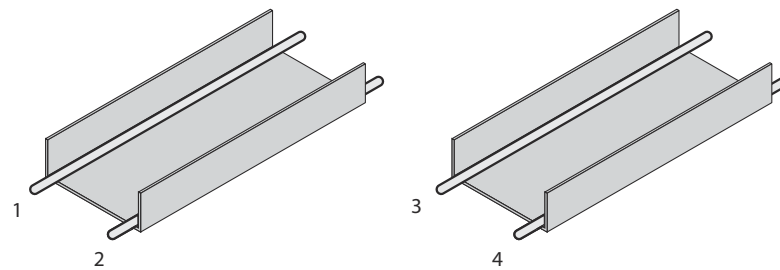
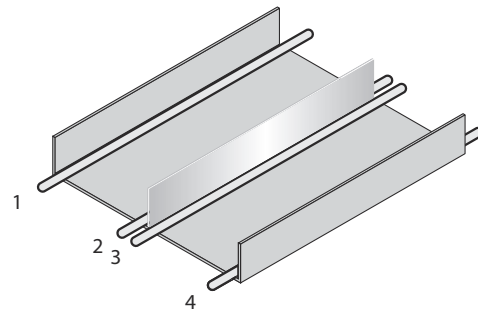

Figure 39: Ideal laying – Place cables in different cable channels
Figure 40: Alternative laying – Separate cables with metallic separators
- ▶ Route the cables in groups 1, 2 and 3, 4 in different cable channels or use metallic separators (see figure 39 and figure 40). This applies particularly if cables of devices with a high level of radiated emission, such as frequency converters, are laid parallel to device cables.